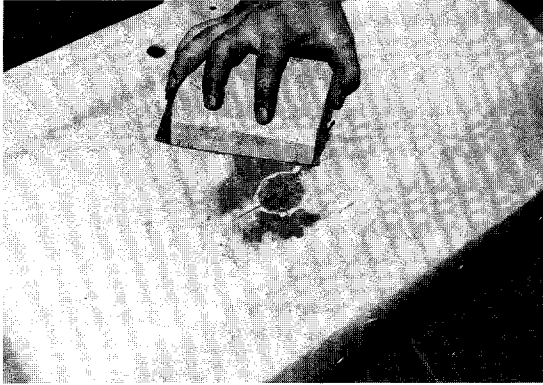

Figure 14-17
12. After the body filler has been shaped to the approximate desired shape, sand with sandpaper. Begin with 80 grit coated sandpaper and go to 240 or 320 grit coated sandpaper as the final finish is approached (Figure 14-17).